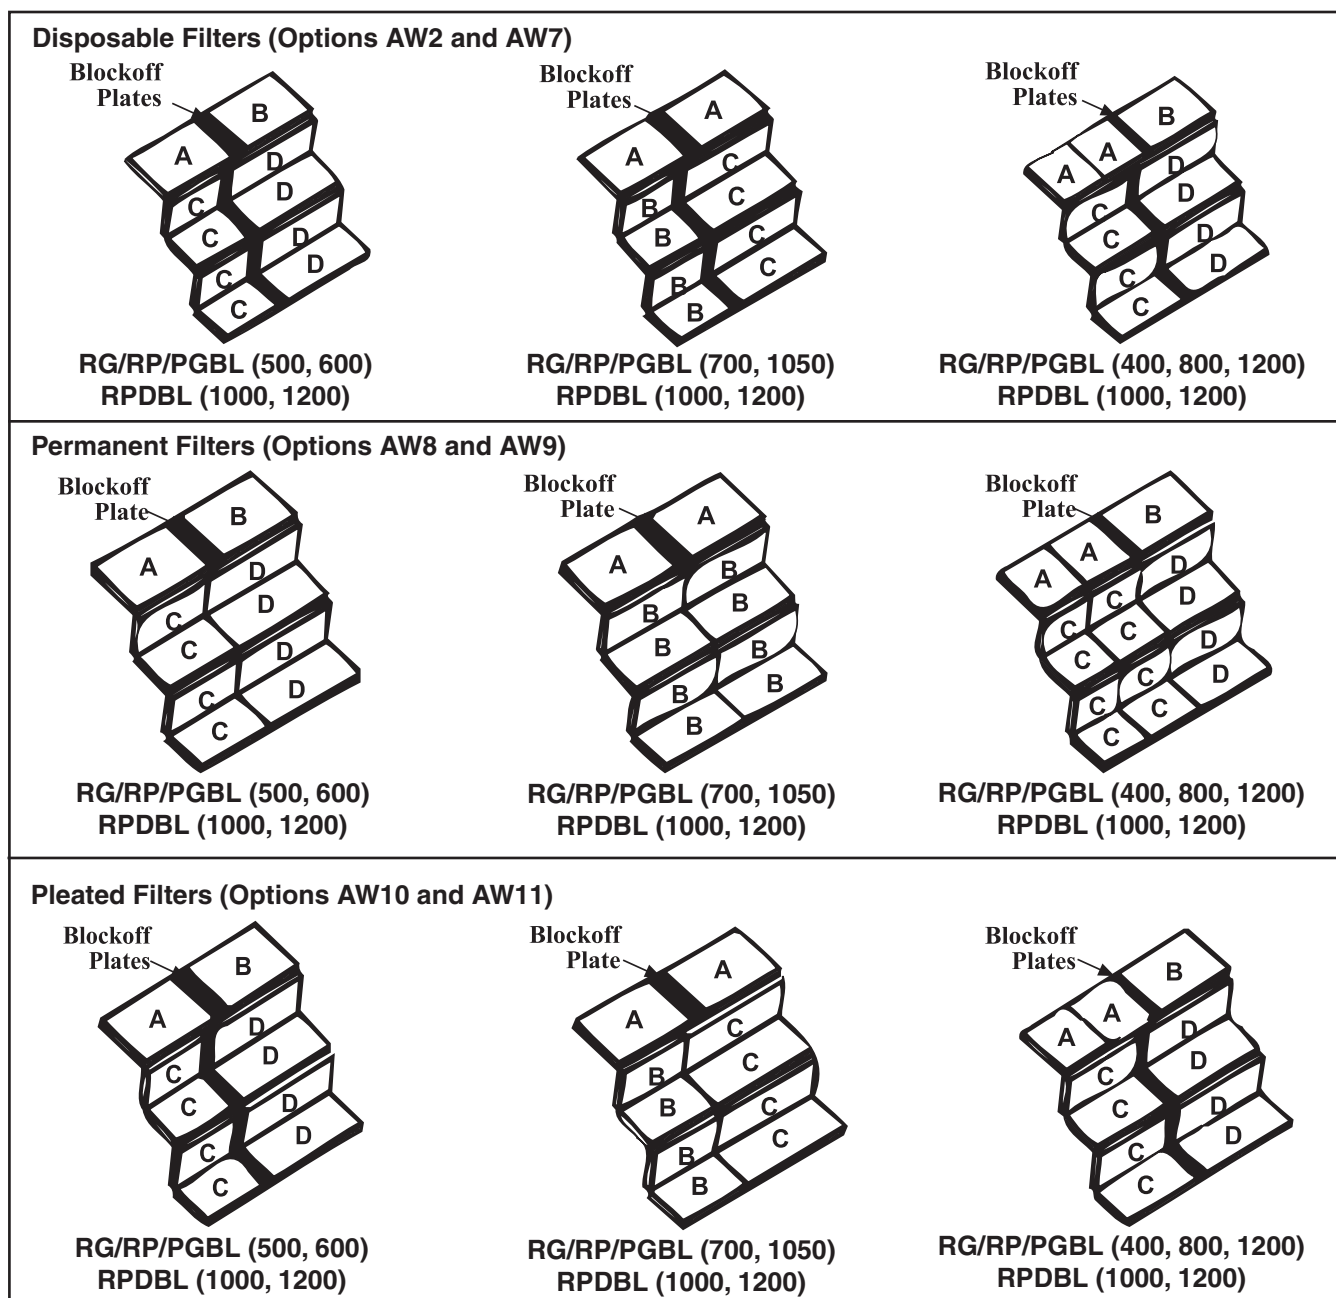

Figure 31. Filter Arrangements—RGL, RPBL, PGBL, and RBL (Blower Cabinet) Models
- Filter arrangements for RGBL, RPBL, PGBL, and RBL (blower cabinet) models manufactured *before* SEP 1991 are shown in Figure 31 and listed in Table 55.
*See Figure 31 .
**Quantity is one (1) unless otherwise indicated.
*See Figure 31.